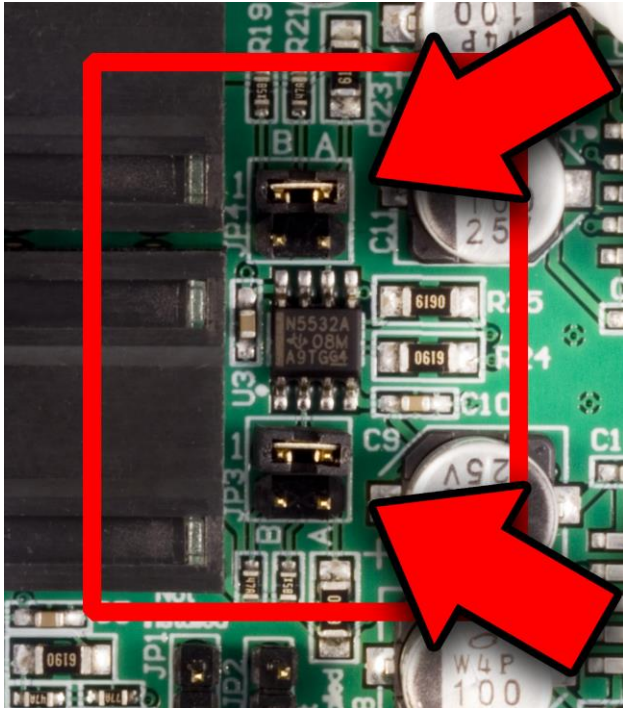

Figure 6 - 20 dB
- **20 dB** attenuation - see **Figure 6**